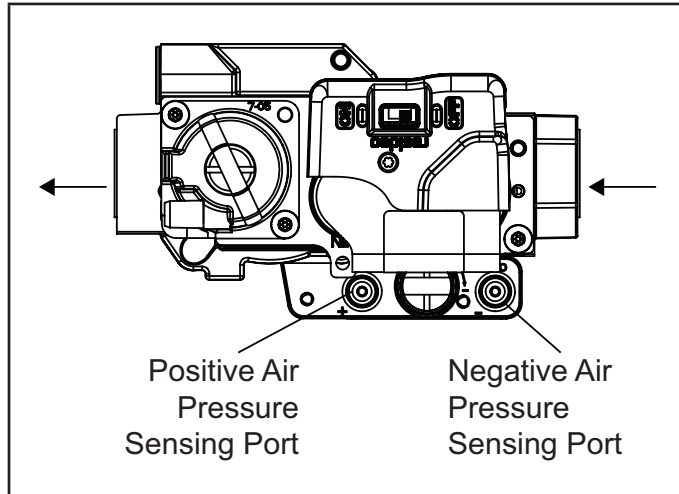

FIGURE 30. LRP13GN Gas Valve
- a. Slide the gas valve switch to the "OFF" position (see FIGURE 30).